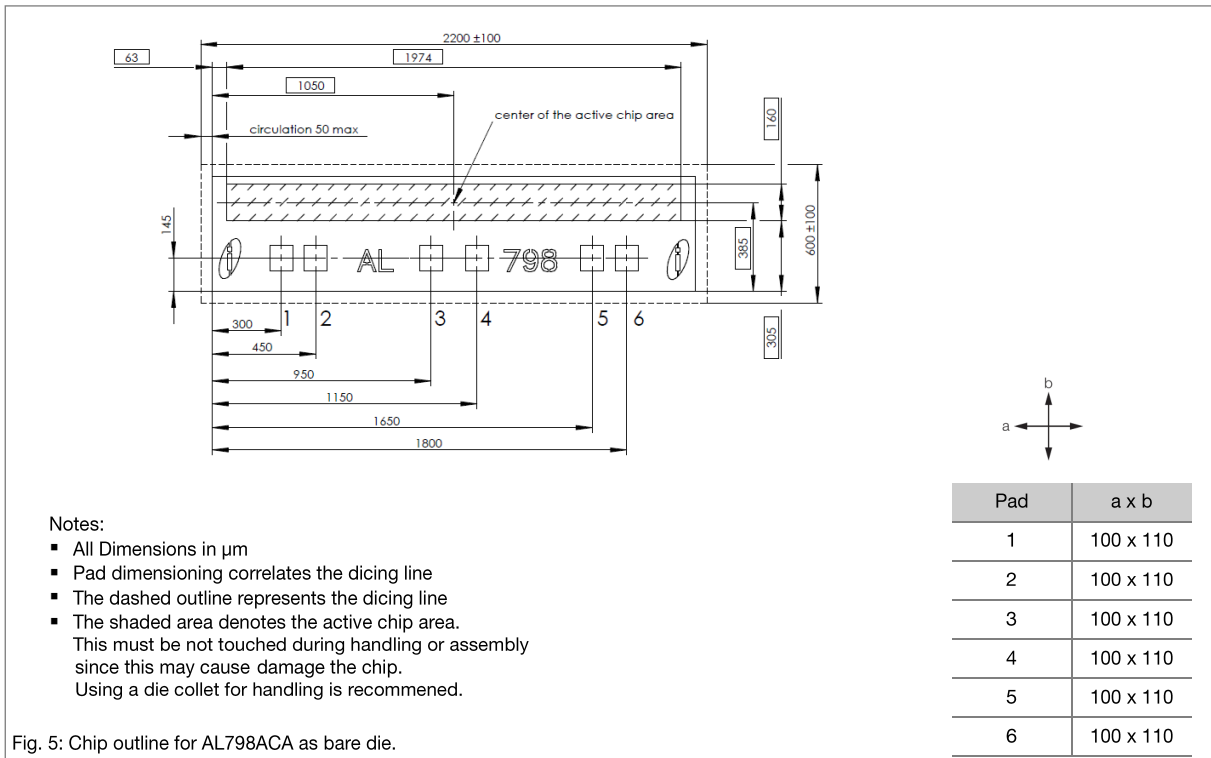

Fig. 5: Chip outline for AL798ACA as bare die.
1) Tolerances of chip see Fig. 5.